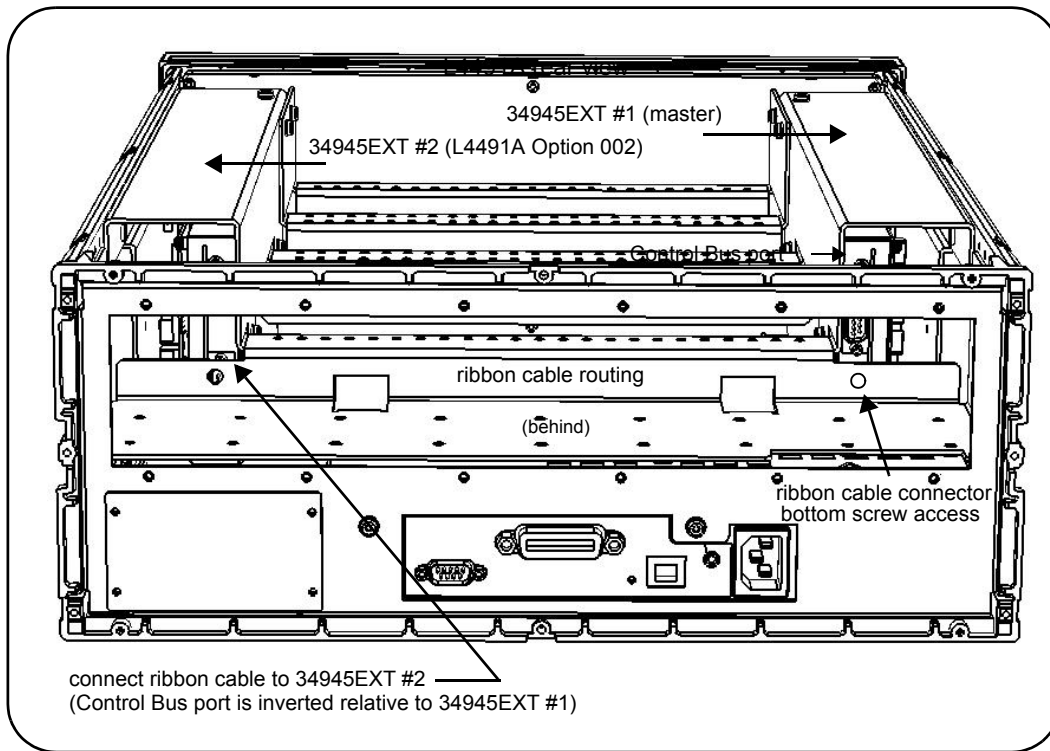

Figure 3-10. Removing the Ribbon Cable from the “Master” 34945EXT.
6. Facing the back of the instrument, locate the ribbon cable leading from the controller box to the "Control Bus" port of the master (right side) 34945EXT. Remove the two screws connecting the ribbon cable to the port (Figure 3-10).